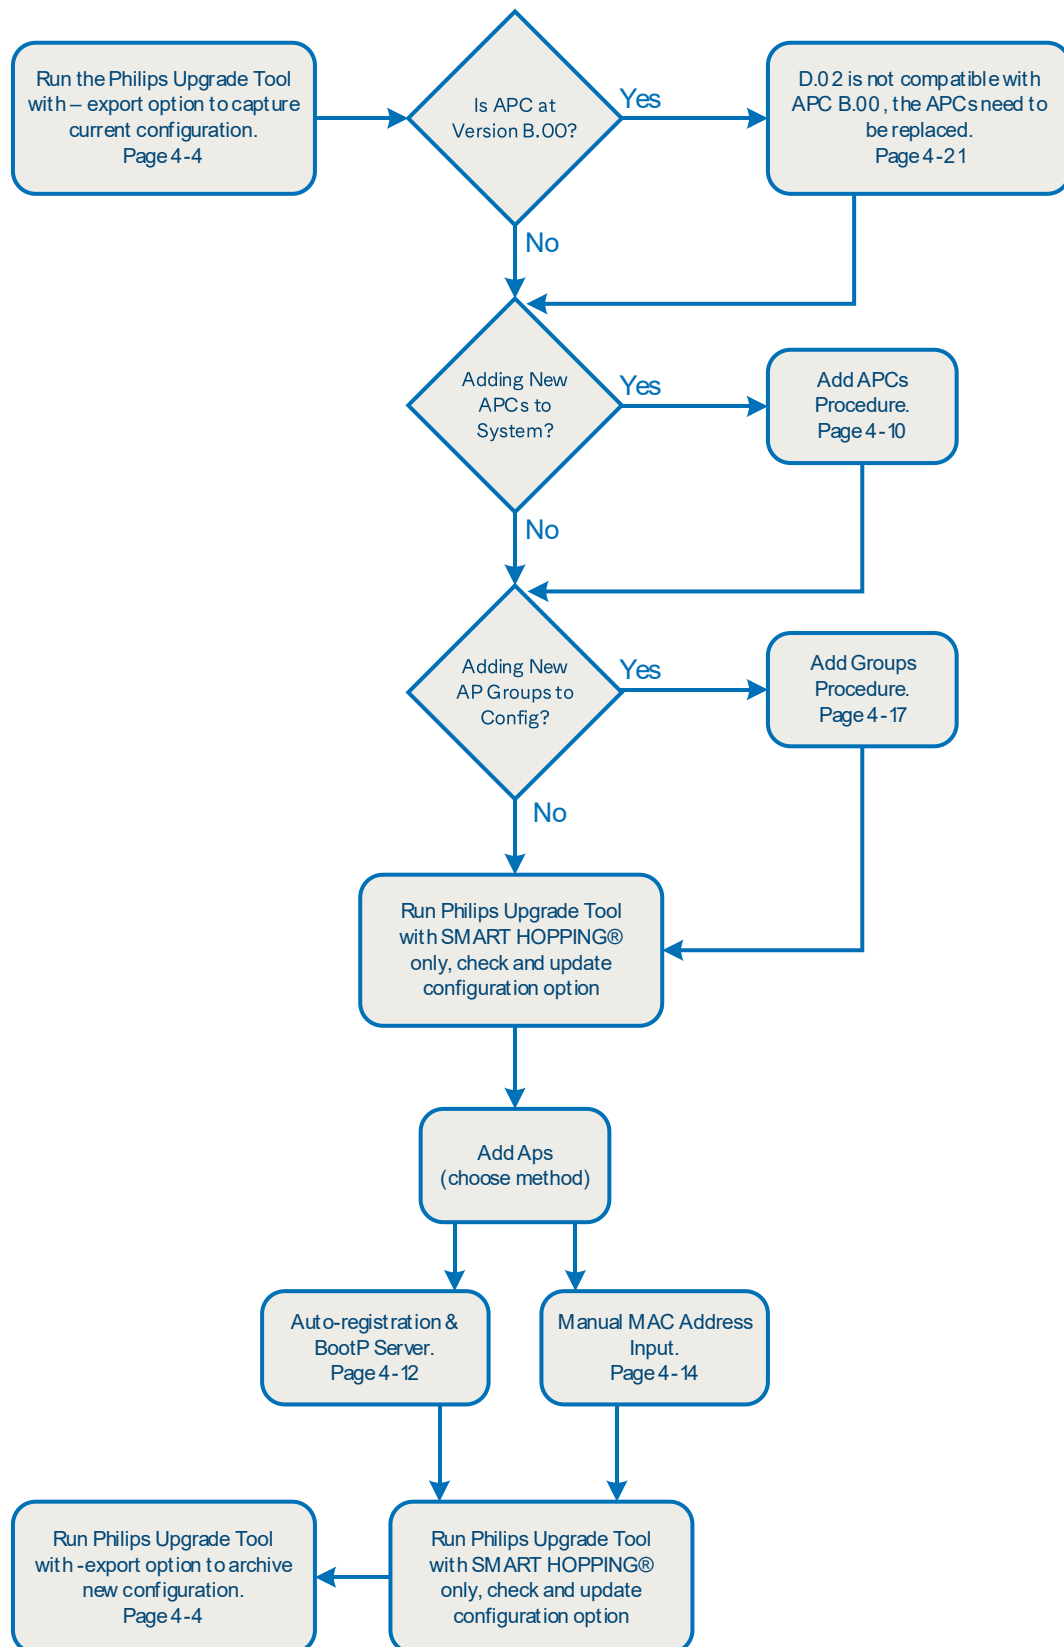

Figure 50: Smart-hopping infrastructure Expansion Tasks
- The AP and Remote Antenna Friendly Name Management screen appears as shown in figure 50.